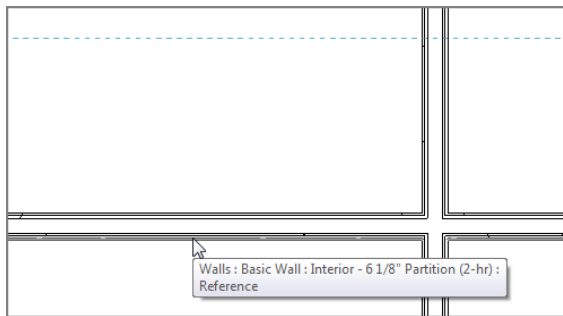

FIGURE 2.41: Adding yet another reference plane to the model. You'll delete this one.
4. From the finish inside face of the top, horizontal corridor wall, offset the reference plane up (see Figure 2.41).